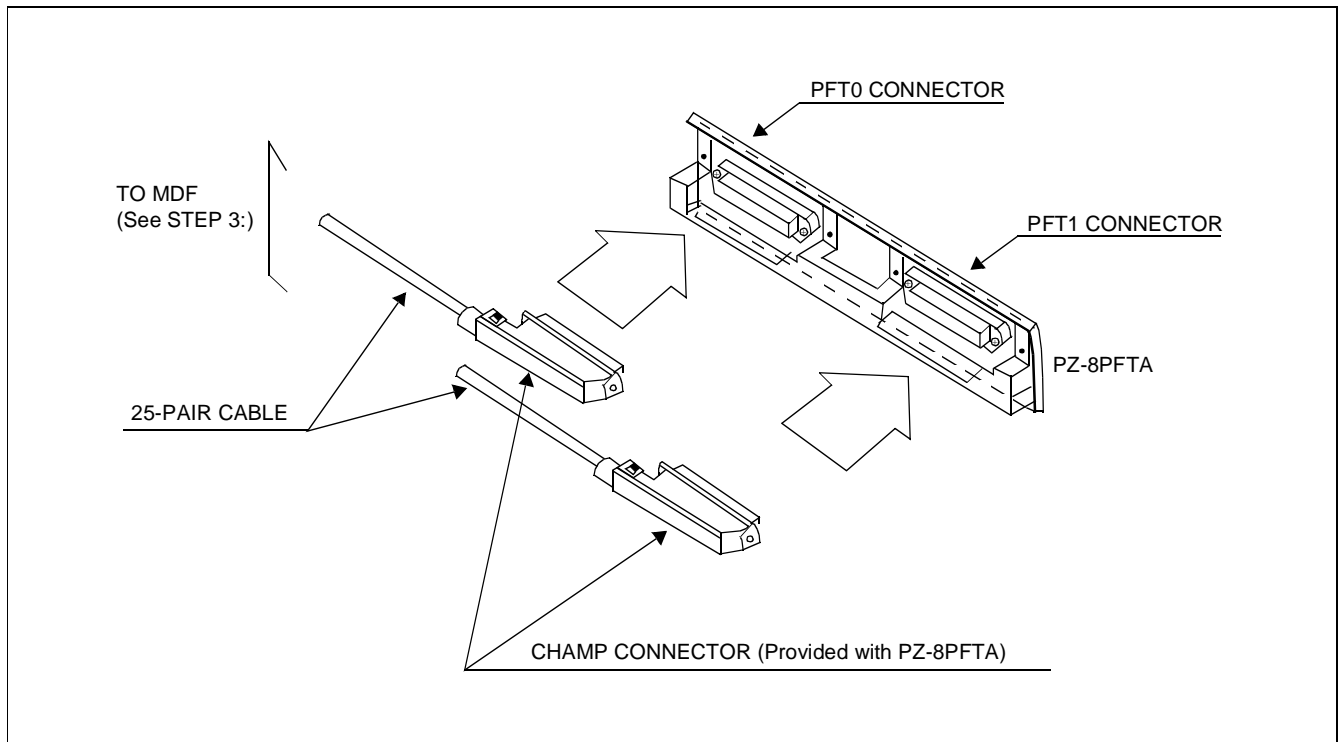

Figure 3-33 Connection of 25-Pair Cable and PZ-8PFTA
STEP 1: Connect the champ connectors of 25-pair cables to the PFT0 and PFT1 connectors on the PZ-8PFTA card as shown in Figure 3-33. Then, secure them to each other using screws and tie wraps.